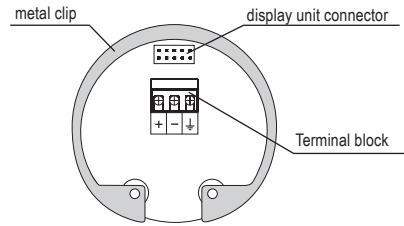

Fig. 32: Inside view of screw terminals of the level meter with current output GRLM-70 --- I
5. Connect the cable to the screw terminals according to the diagram in Fig. 32 or 34. Firmly tighten the terminals and the cable outlet. Tightening torque see. Technical parameters p. 36.
6. If the level meter with Modbus is involved as a terminal for RS-485, we recommend (to avoid reflections on the line) to connect 120Ω termination resistor. This is done by moving a small lever of the switch marked 120Ω to the ON position. On the level meters connected to the line RS-485 as an intermediate device, the termination resistors are not connected (switch remains off) in Fig 32.
In the event of strong ambient electromagnetic interference, paralleling of conductors with power distribution, or for distribution to distances over 30 m, we recommend grounding the level meter (see above) and using a shielded cable. Ground the shielding of the cable on the side of the power supply, or the shielding is possible to connect only on inside pin of the level meter marked \ominus see fig. 32 and 34 (the shielding of the cable is always connected in a single location).